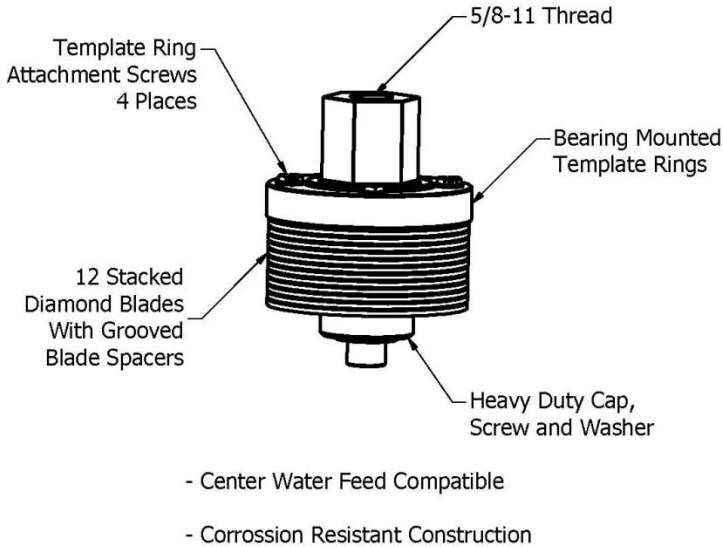

FIGURE 1 - Rapid Z™-CUT with Template Bearing (Assembled)
6. As the blades wear they will create an "apple core" shape. For maximum blade life, the blades should be rearranged often. Relocate the largest blades (normally the outer blades) to a location where they will get more wear (normally toward the center of the stack). This can be accomplished as follows (see Figure 1 & 2):
7. The Rapid Z™-CUT template bearing ring incorporates a two stage design to help compensate for blade wear. After all the blades have worn down approximately 1/8" you can remove the large outer template ring and run the smaller inner ring against the template. This can be accomplished as follows (see Figure 1 & 2):
- a. Using a 5/16" nut driver, socket wrench or a flat bladed screw driver; remove quantity (4) ring attachment screws.
- c. To keep the threads clear, reinstall the (4) screws into the smaller inner ring.